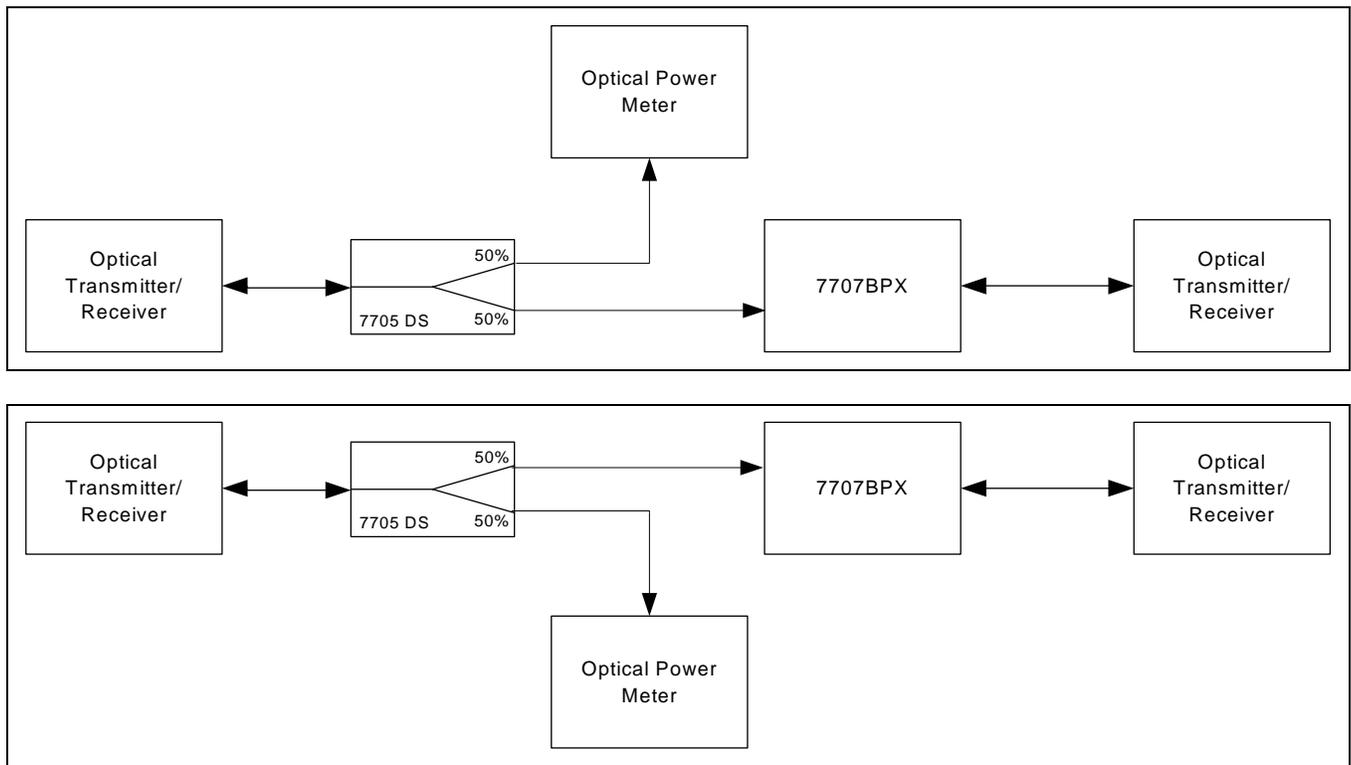

Figure 1-4: Bi-Directional Setup Step 1
- 1) For the 7707BPX to properly function bi-directionally there must be less than 15dB of optical attenuation in the fiber link. To measure the fiber link attenuation first measure the optical power launched from both Channel A and Channel B of the 7705DS, these power values will subsequently be referred to as the *Remote Launch Powers*. Next, measure the optical power before Channel A and Channel B of the 7707BPX as shown in Figure 1-4. Verify the system complies with the following two formula: